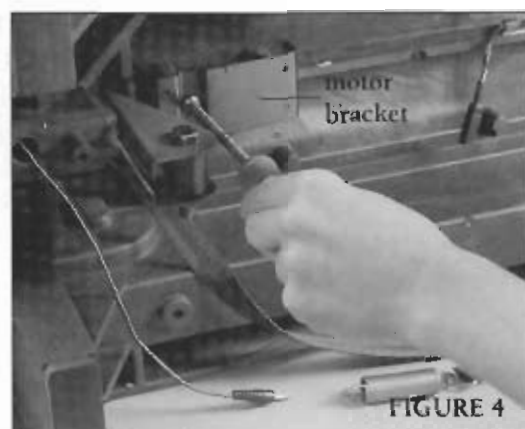

FIGURE 4
4. Secure the motor bracket in place with the same screw that held the spring in place (Figure 4).